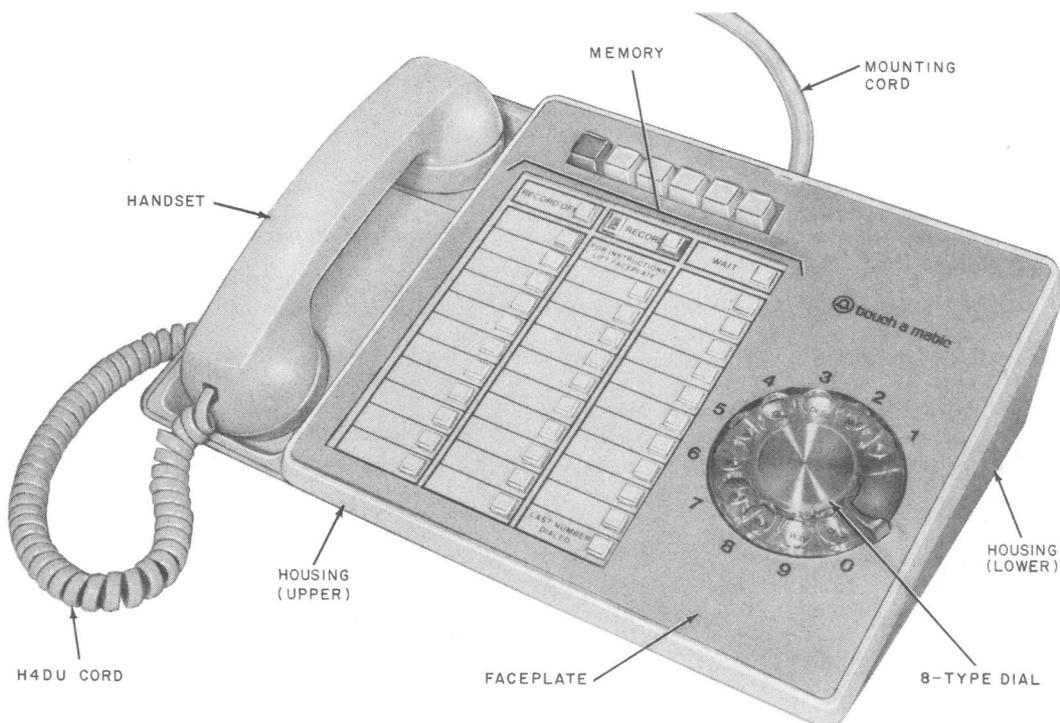

Fig. 1—872A1M Telephone Set
1.01 This section contains information on the 872A1M (rotary dial) TOUCH-A-MATIC® telephone set (Fig. 1).